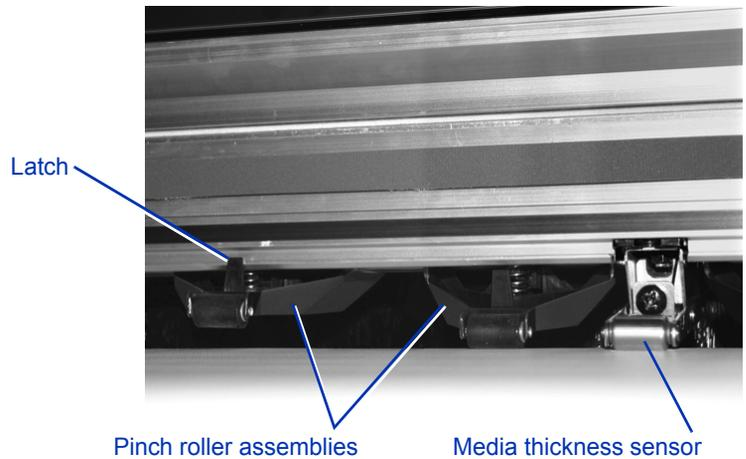

Fig. 2-4. Pinch rollers
10. If the edge of the media you are using is directly below a pinch roller, raise that pinch roller by pushing it up and then pushing the latch toward the rail to engage it (see Fig. 2-4